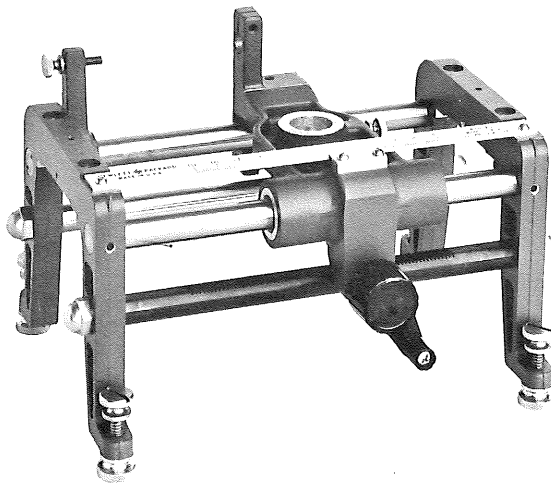

Figure 2. Model 809C Universal Probe Carriage
4. A Model 810B slotted section is installed in an 809C Universal Probe Carriage shown in Figure 2. In operation, RF power is applied through the slotted section to the device under investigation. The fields in the line are sampled by means of a probe which protrudes into the slotted section. The output of the probe is fed to a high-gain voltmeter such as the HP Model 415B/C Standing Wave Indicator. With this type of setup, information about variations along the entire length of probe travel can be obtained.